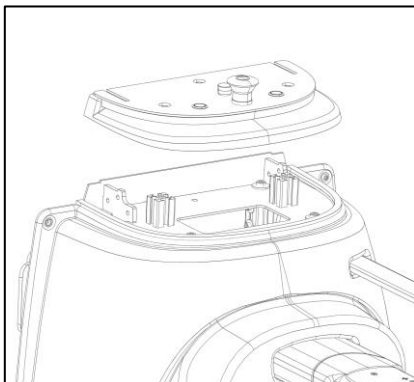

Fig. 4
2. Lift up the switch panel (Fig. 4).